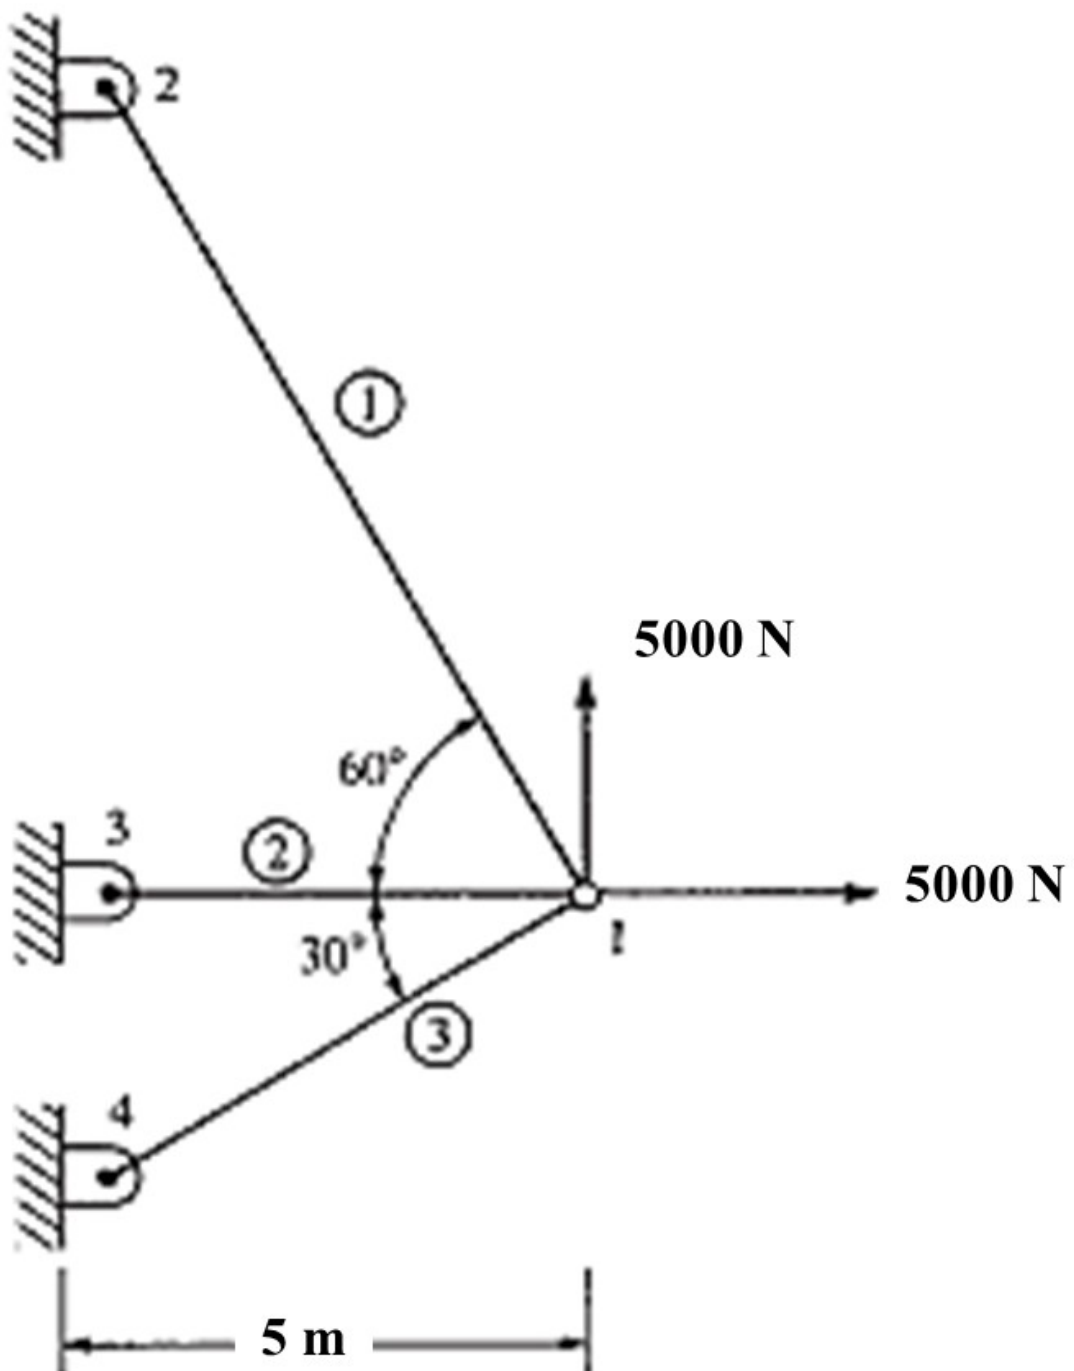

Figure 1 Three-membered Truss
- 1) Assemble the global stiffness matrix for the truss shown in Figure 1. All the elements are made of steel ($E=200$ GPa) and have a cross-section of $4 \times 10^{-4} \text{ m}^2$.
- B) For the truss in Figure 1, determine the unknown displacements and the reactions at the supports. (2)
- C) For the truss shown in Figure 1, solve for the axial stresses in each of the bar elements. (3)